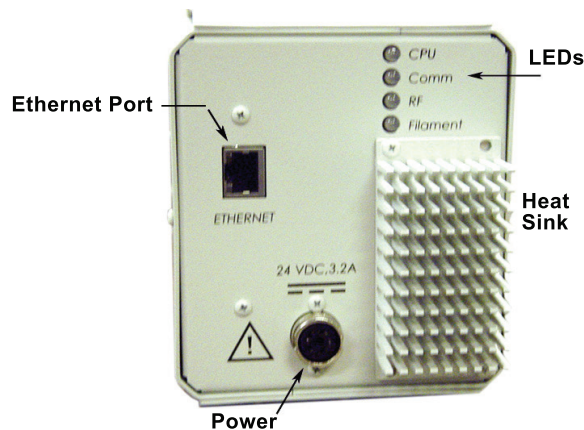

Figure 3-3. Ethernet port and LEDs.
The LC-D LEDs are located on the back of the electronics unit as shown in Figure 3-3. When first started, the LC-D cycles through the LEDs, turning them green, red and yellow. This allows you to check that each LED is working properly. When the unit is through cycling, the top LED turns green and then the third LED (RF) turns green as well.
The LEDs are listed below in the order in which they appear (top to bottom) on the back of the electronics unit (Figure 3-3).